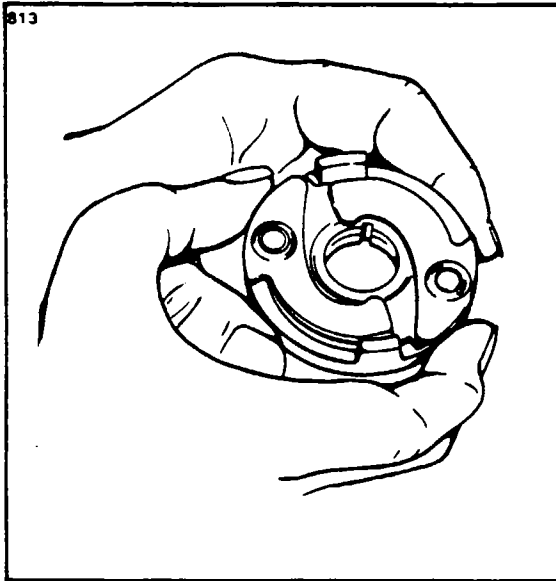

Figure 8-24. Checking Impulse Coupling for Magnetization
a. Check mating cam assembly and body for magnetization which would prevent flyweights from engaging. Hold the assembly as shown in Figure 8-24 and push upper flyweight against body. When released, flyweight must drop down. If flyweight sticks to body, parts are magnetized and coupling may not function. Perform test on both flyweights.